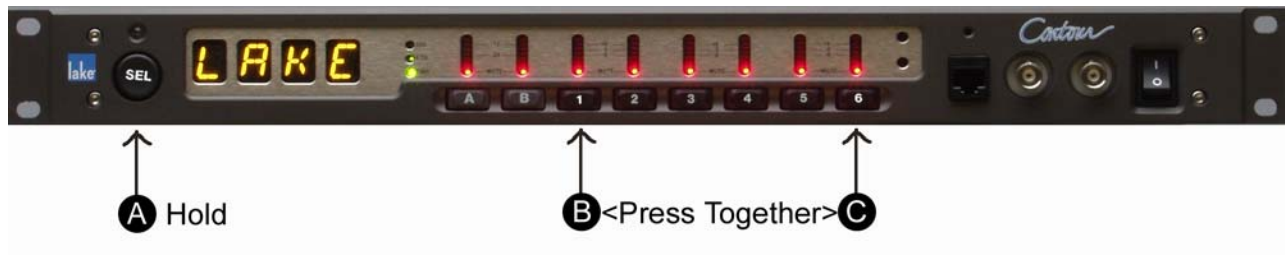

Figure 5-9
2. Hold down the SEL button (A), then press mute button 1 (B) and mute button 6 (C) together as shown in Figure 5-9 below.
6. Hold down the SEL button (A), then press mute button 1 (B) and mute button 6 (C) together as shown in Figure 5-9. Release all buttons to return to normal operating mode.